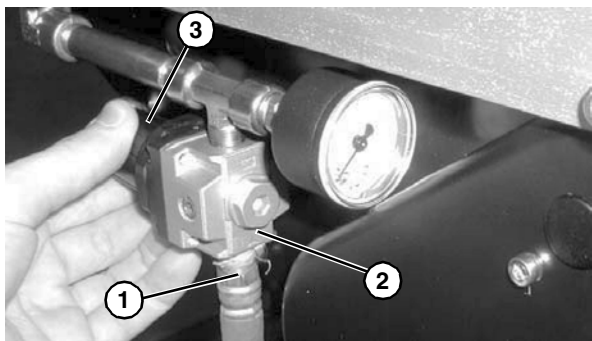

Figure 50
1. Connect air supply (**Figure 50, item 1**) to regulator (**Figure 50, item 2**).
2. Adjust regulator knob (**Figure 50, item 3**) until gage reads the appropriate pressure. Adjust regulator starting at 15 psi sufficiently to keep belt from slipping up to the maximum shown in the following table.